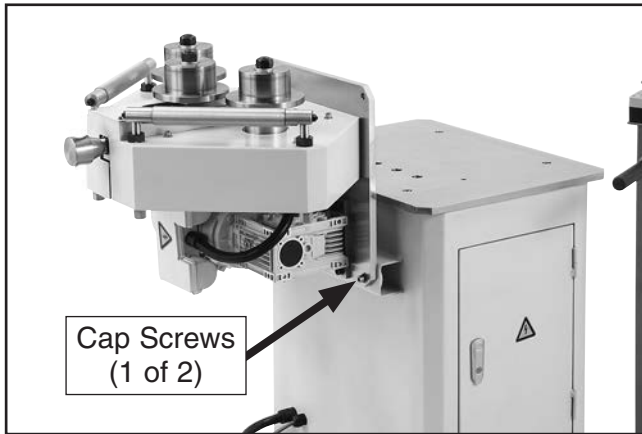

Figure 7. Location of cap screws that secure headstock in horizontal position.
1. Use an 8mm hex wrench to remove two cap screws that secure headstock in horizontal position (see **Figure 7**).